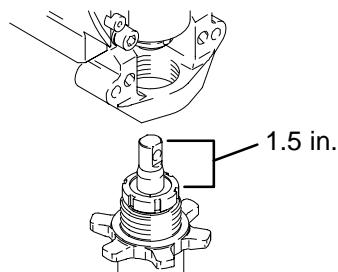

Fig. 19 7676B
1. Fig. 19. Pull piston rod out 1.5 in. Screw in pump until holes in bearing cross link and piston rod align.